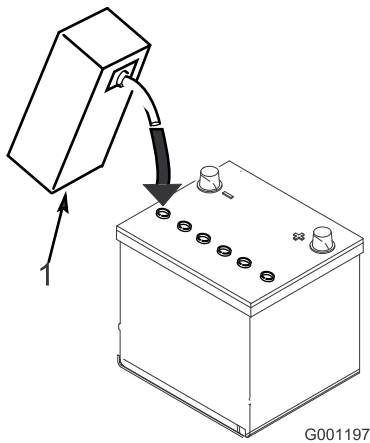

Figure 18
4. Allow approximately 20 to 30 minutes for the electrolyte to soak into the plates. Refill as necessary to bring the electrolyte to within about 1/4 inch (6 mm) of the bottom of the fill well (Figure 18).